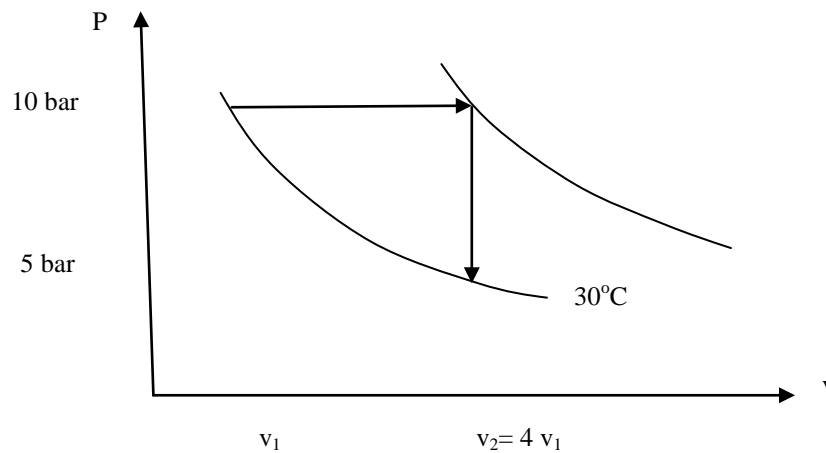

Figure Q2
- [b] With reference to Figure Q2, calculate for non flow processes:**